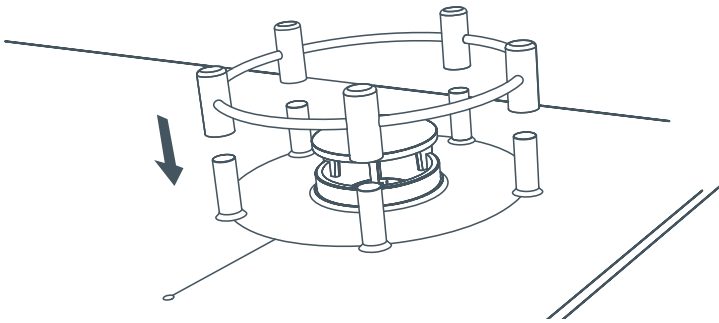

Fig.2 Wok stand is placed onto the raised wok burner pan supports
- *Make sure the wok stand is fitted correctly over the raised pan supports. (see Fig.2)*